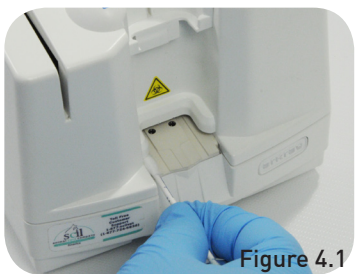

Figure 4.1
2. Clean the Plate Transfer area. **[Figure 4.1]**